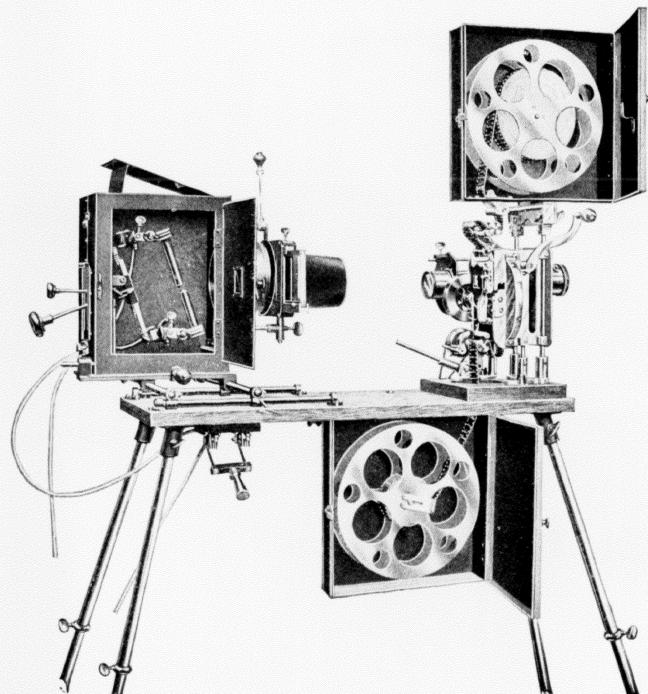
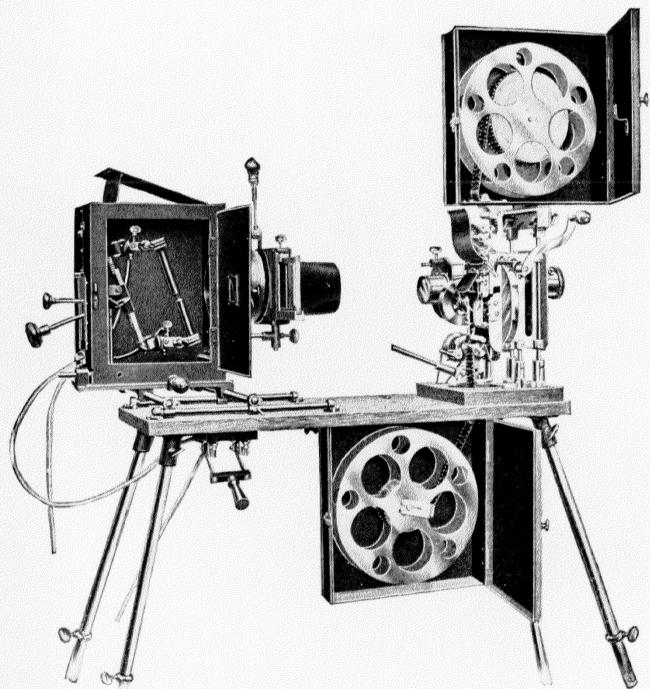

FIG. 18
FIG. 19
**ERRATA.** Figure 18 on page 26, and Figure 19 on page 28, should be interchanged.